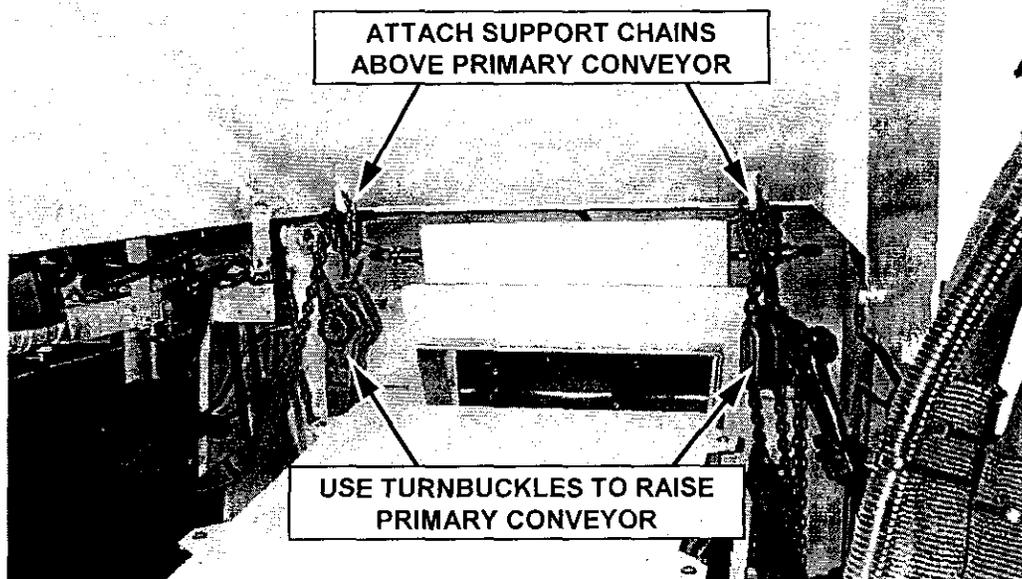

FIGURE 55
1. Using some type of lift equipment (i.e. turnbuckle or come-along), slightly raise and suspend the primary conveyor using the side hooks and chains (figure 55 & 56). *Use caution and be sure that chains are secured tightly.*